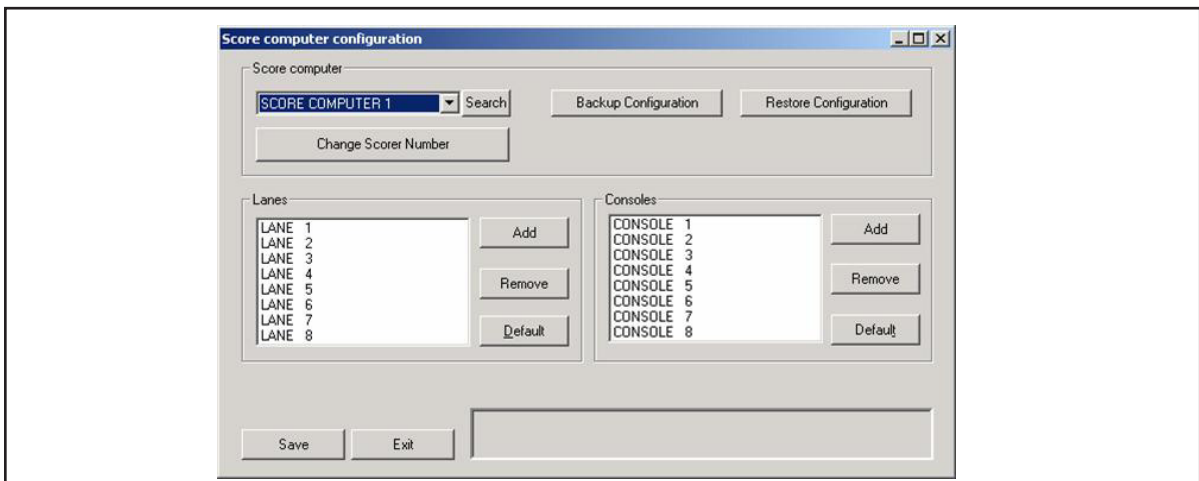

Figure 15. Scorer Configuration Screen
4. Select the appropriate SCORING COMPUTER from the drop-down list on the top-right of the window. Refer to *Figure 15*.
5. Under the lane column, double-click on the first lane that has bumpers installed, and assign the bumper type “Brunswick” to the lane. Refer to *Figure 15*.